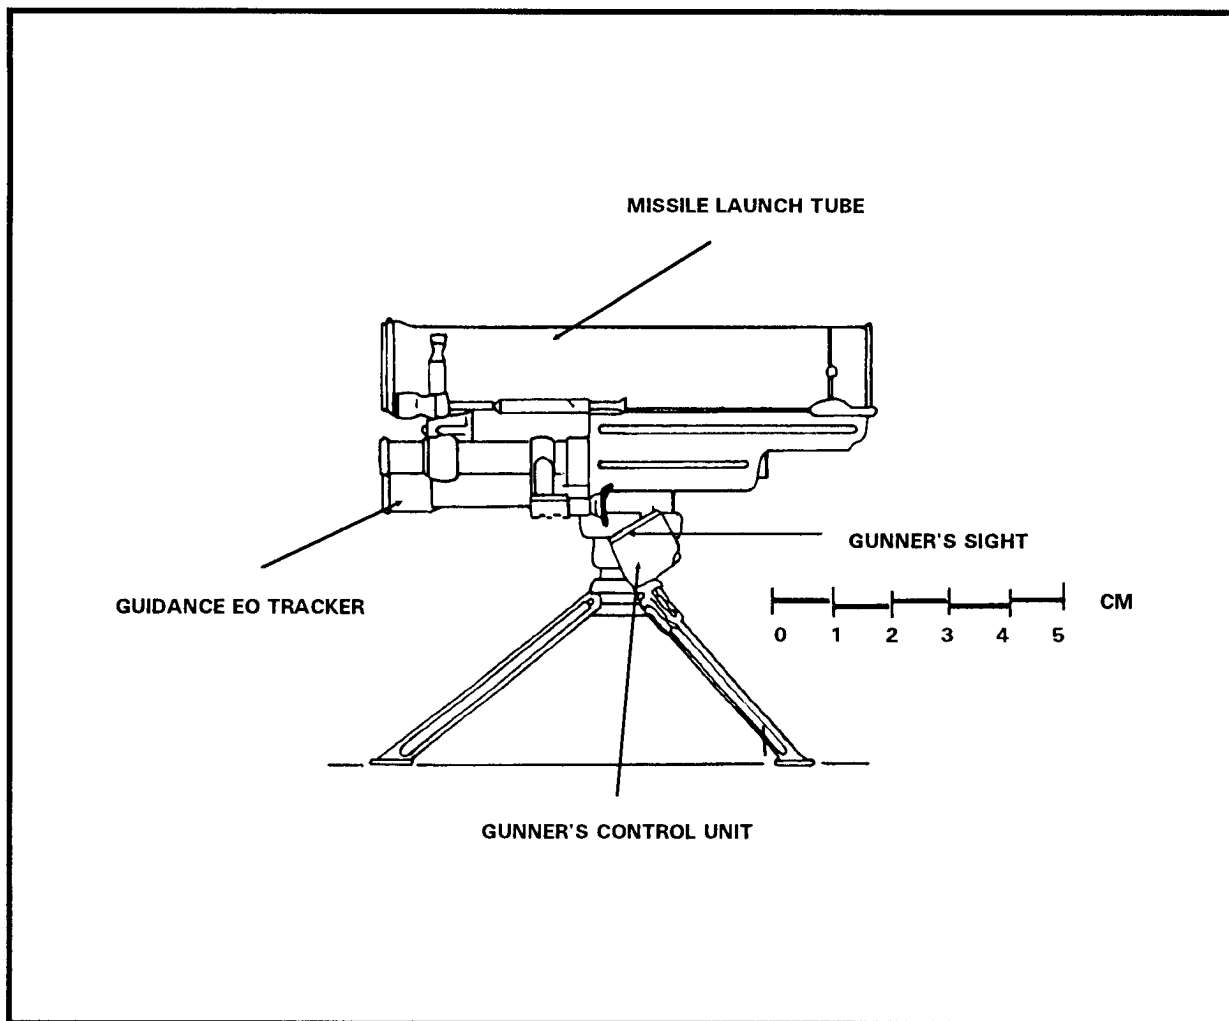

Figure F-10. AT-7 Saxhorn.
- f. **AT-7 Saxhorn** (Figure F-10, page F-8).